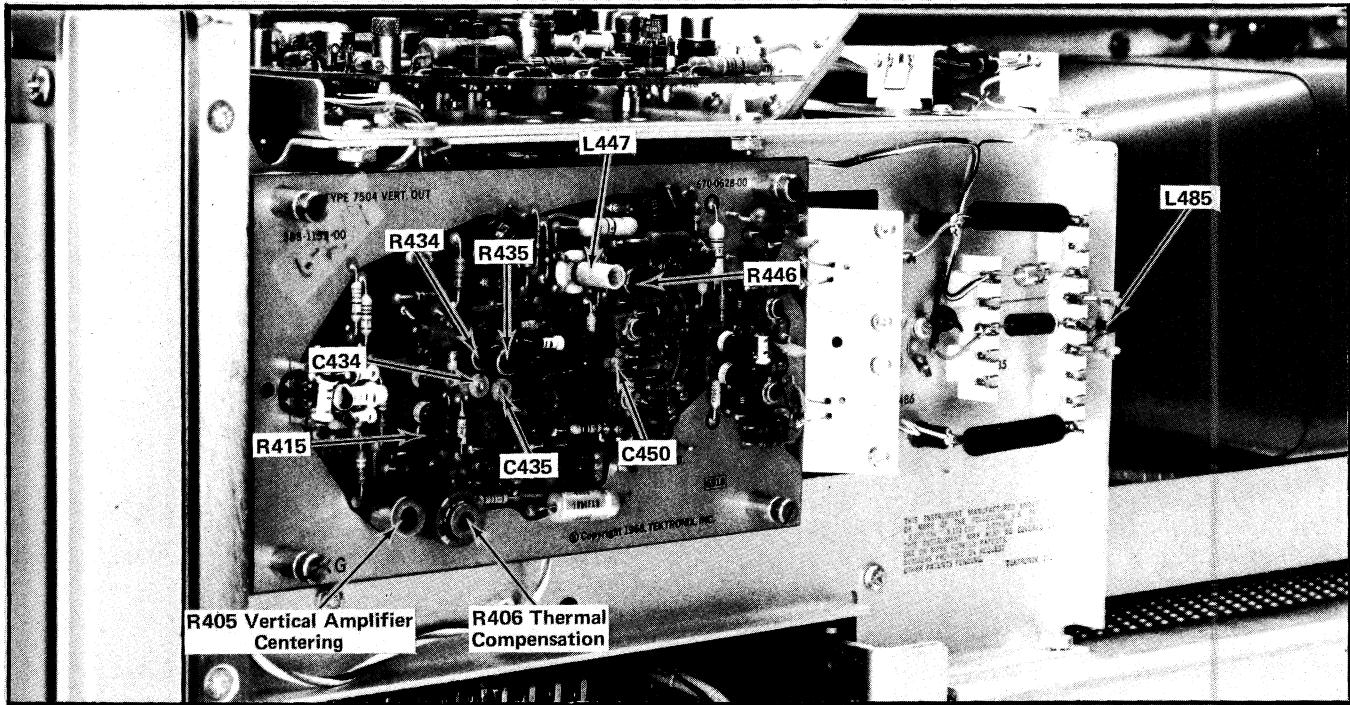

Fig. 5-6. Location of adjustments on the Vert Out board.
e. ADJUST—Vertical Gain control R415 (see Fig. 5-6) for exactly six centimeters between the second and sixth traces (corresponding to the center 6 divisions) on the graticule. Use the calibration fixture position control as necessary.
- c. ADJUST—R405 (see Fig. 5-6) for exact centering of the displayed trace on the center horizontal graticule line.
- f. ADJUST—R406 (see Fig. 5-6) for minimum vertical readout shift as the Calibration Fixture position control is used to move the trace off screen above and below the graticule.
e. ADJUST—R406 (see Fig. 5-6) for minimum change in the stationary trace as the calibration fixture position control is used to position the other trace off screen above and below the graticule.
- g. ADJUST—R435-C435 (major effect 20 - 50 ns after corner), R434-C434 (for best corner without ringing), L447 (major effect 5 ns after corner), R446 (major effect 8 ns after corner), L485 (major effect 5 ns after corner) and C450 (fast leading edge) for optimum square-wave response (use low-capacitance screwdriver for the capacitors and tuning tool for the inductors). Fig. 5-6 shows the location of these adjustments. Since these adjustments interact, readjust until optimum square-wave response is obtained, with rise time of less than 3.5 nanosecond. Use either X1 or X10 Magnifier on the Type 7B50 as required to best view the effect of each adjustment.
- c. ADJUST—DC Center control (R505, see Fig. 5-6) for
j. ADJUST—Limit Center control (R525, see Fig. 5-6) for identical DC base line levels.